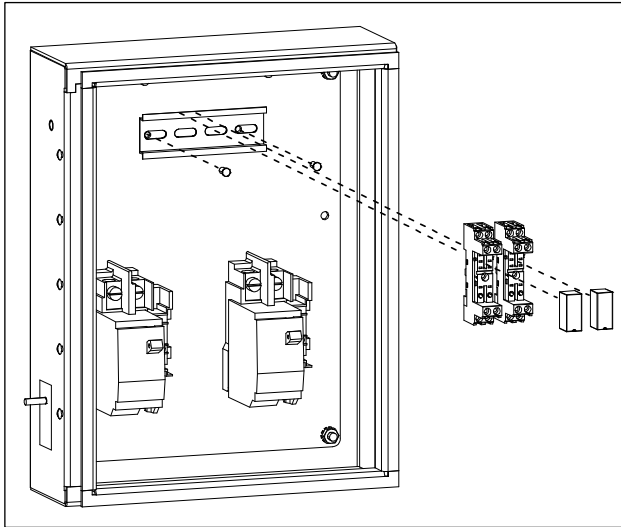

Figure 5 Relays
3. Install the DIN rail using two 10-12 (1/2" long) Philips screws with washers (Figure 5).
4. Install the relays into the relay sockets, then snap the relay sockets onto the DIN rail (Figure 5).